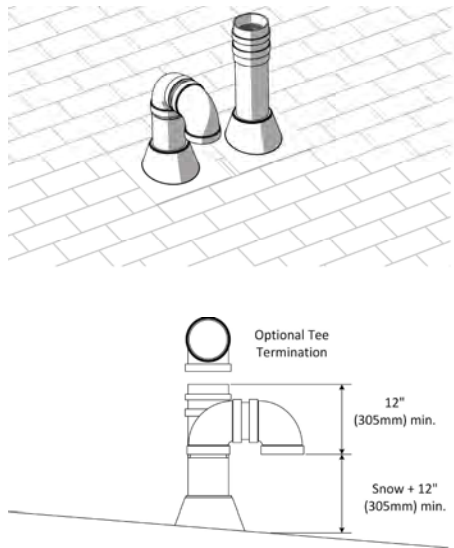

Figure 9: Rooftop vent termination
- The intake air pipe is not typically drained, so it must be terminated with a down-turned elbow (see *Figure 9*). The intake pipe does not need to penetrate the roof at the same elevation as the exhaust (as shown); lower down the roof is acceptable.
- You must maintain at least the minimum separation of exhaust vent termination from unit's intake air as illustrated in figures 9, 10, 14, 16, 18 and 19. Failure to do so can result in a dangerous situation where exhaust gases are pulled in with combustion air. Damage to the unit can result from a failure to maintain these separations. Improper installation will void the warranty.